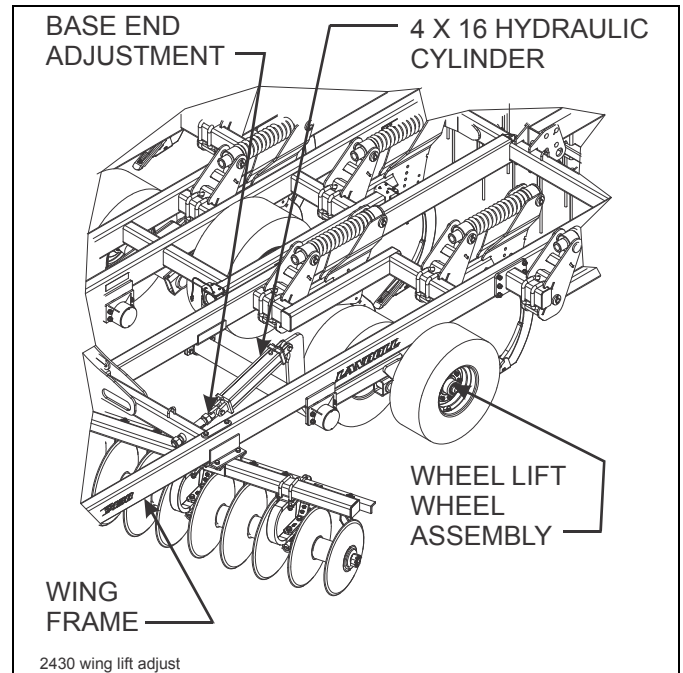

Figure 4-10: Wing Lift Adjustment
5. Adjusting the anchor at the base end of each wing lift cylinder sets wing frame height (See Figure 4-10.)